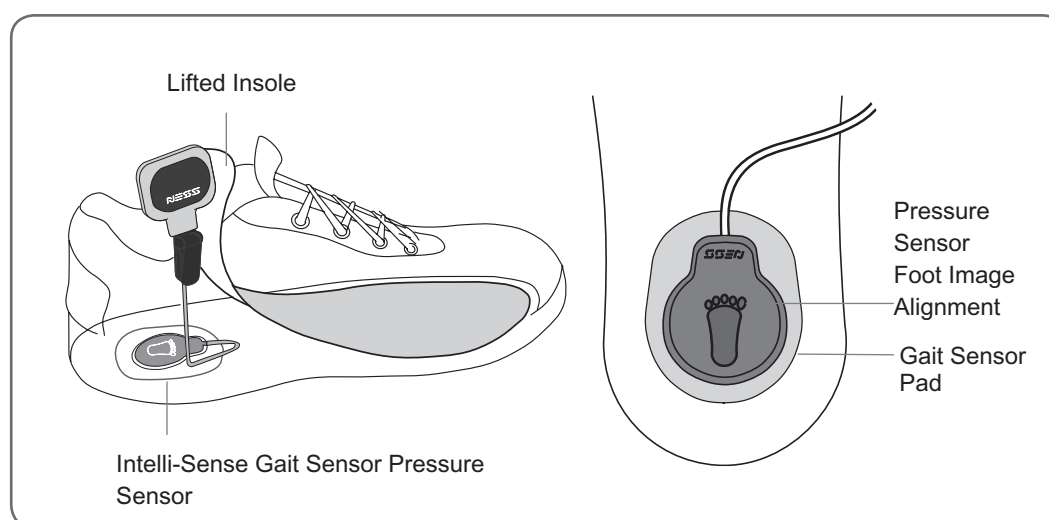

Figure 8-44: Intelli-Sense Gait Sensor in a left shoe.
3. With the wire of the pressure sensor pointing toward the toe of the shoe, attach the pressure sensor to the Gait Sensor pad. (Refer to the foot image on the pressure sensor for alignment.) See Figure 8-44.